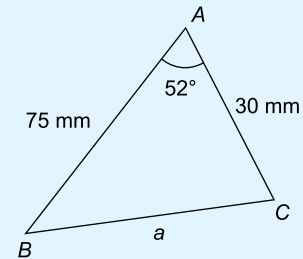

Figure 1.10
- In the triangle *ABC* shown in Figure 1.10, side '*a*' is equal to:
- In the triangle *ABC* shown in Figure 1.10, angle *B* is equal to: